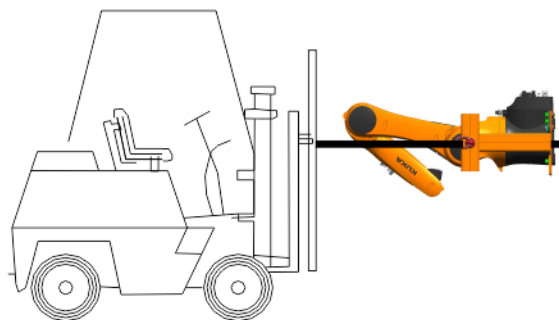

Fig. 8-6: Lifting the Load Lifting Attachment with a fork lift truck
11. Lift the Load Lifting Attachment with a fork lift truck (>>> Fig. 8-6).